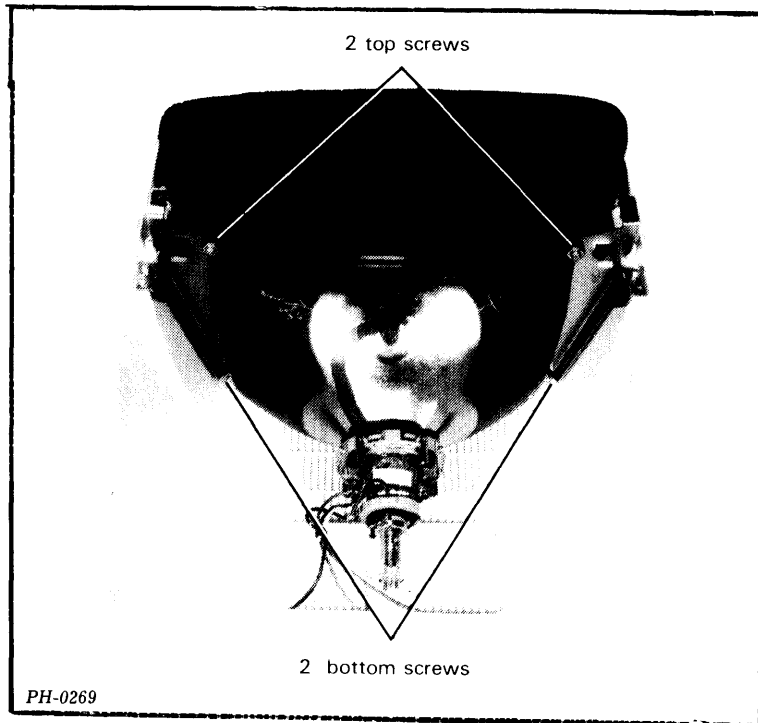

Figure 8.18 Removing the CRT
1. Remove the 4 screws, washers, and grommets fastening the CRT/yoke assembly to its bracket. Start with the two bottom screws (see figure 8.18).
4. Position the new CRT/yoke assembly in the bracket with the anode connectors facing upwards (see figure 8.18). Then, replace the 4 screws, washers, and grommets, starting with the two top screws.